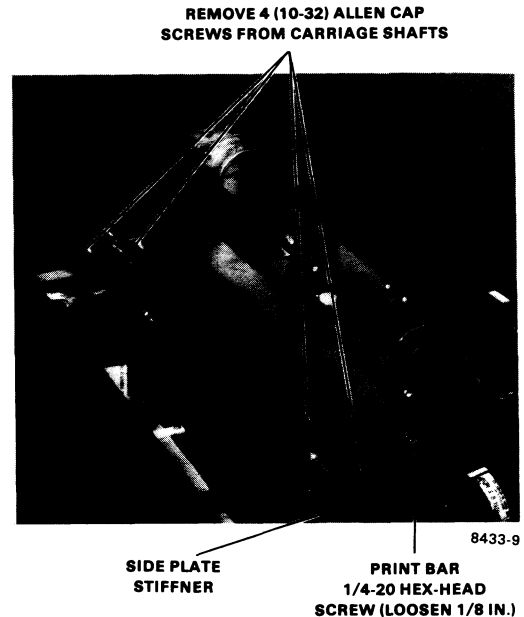

Figure 7-9 Carriage Shaft Removal
12. Loosen the 7/16 hex-head (1/4-20) screw securing the print bar to the right-hand side plate approximately 5.8 mm (1/8 inch) (Figure 7-9).
13. Remove the four (10-32) Allen-cap screws, split lockwashers, and flat washers from the ends of the two carriage shafts (Figure 7-9).